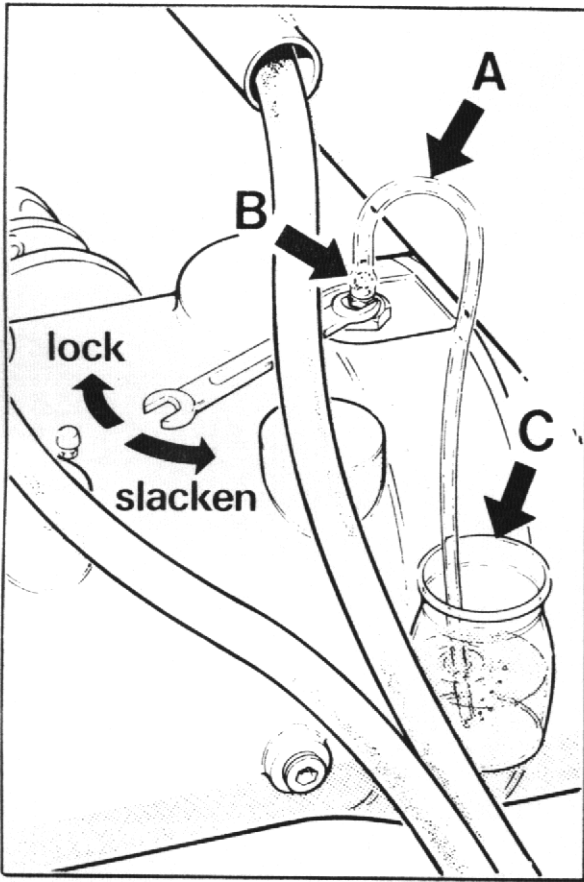

FIG. 7
3. Attach bleeder tube (A) (See figs. 7 & 8) to the bleed screw (B) on front axle and immerse other end in a small quantity of hydraulic oil contained in a glass jar (C). Slacken bleed screw and operate brake pedal up and down to its full stroke, until oil pumped into the jar contains no air bubbles. Hold down pedal and close bleed screw. Remove bleeder tube and release pedal.